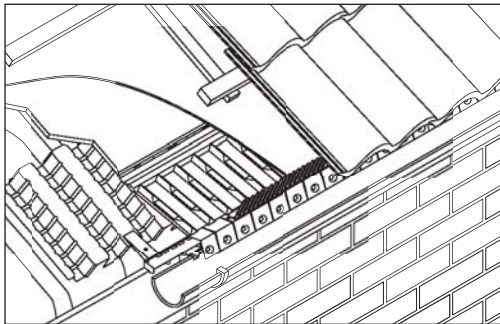

Fig 22 – Tiling battens and counter battens at eaves
- Nail tiling battens above counterbattens at required tiling gauge (Figs 22 & 23).